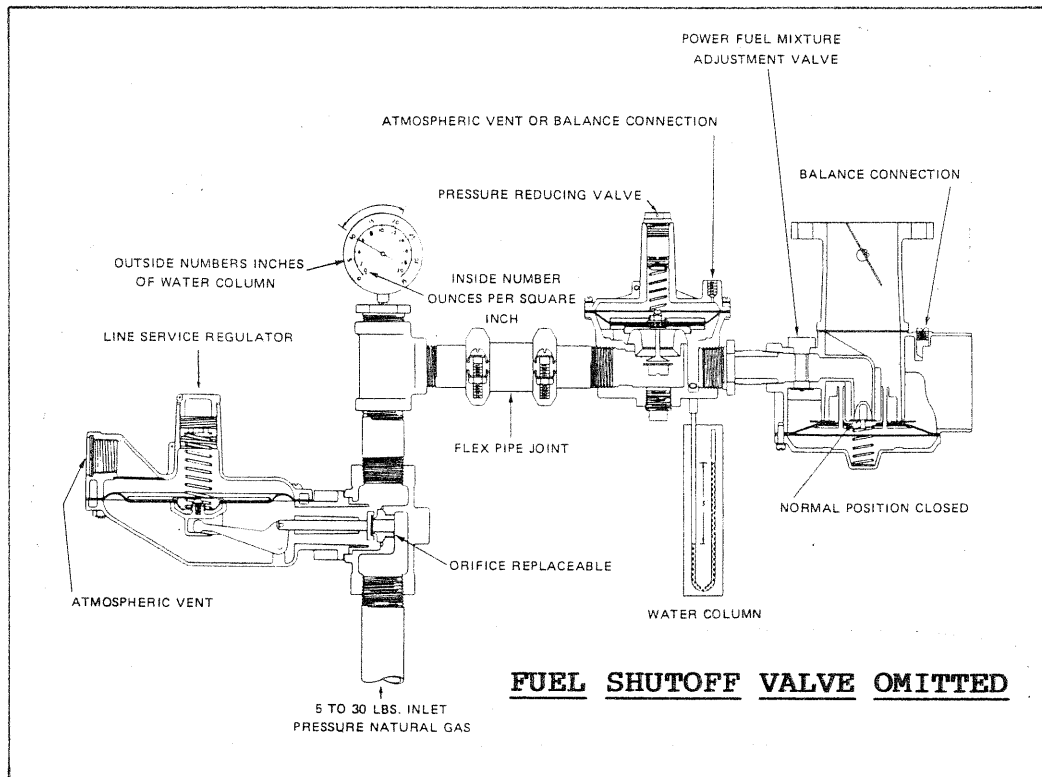

Figure 5.2-A. Schematic Diagram of Natural Gas Fuel System
The IMP-52 Pressure Reduction Valve can be installed as a negative regulator by removing the Regulator spring and mounting the valve upside down. This would make the valve suitable for LP gas vapor withdrawal application. See Figure 5.2-B.
5.2.5- CARBURETOR (Figure 5.2-A, 5.2-B, 5.2-C)